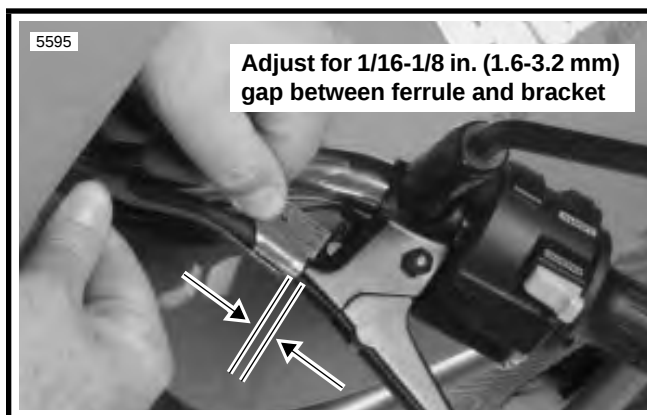

Figure 1-20. Adjusting Clutch Freeplay
4. Remove spring (4) and adjusting screw lockplate (5). Turn adjusting screw counterclockwise until it lightly bottoms.
5. Turn clutch adjusting screw (6) clockwise 1/4 turn. Install lockplate (5) and spring (4) on adjusting screw flats. If hex on lockplate does not align with recess in outer ramp, rotate adjusting screw clockwise until it aligns.
- a. See Figure 1-20. Pull clutch cable ferrule (end of cable housing) away from clutch hand lever bracket. Gap between ferrule and bracket should be 1/16-1/8 in. (1.6-3.2 mm).